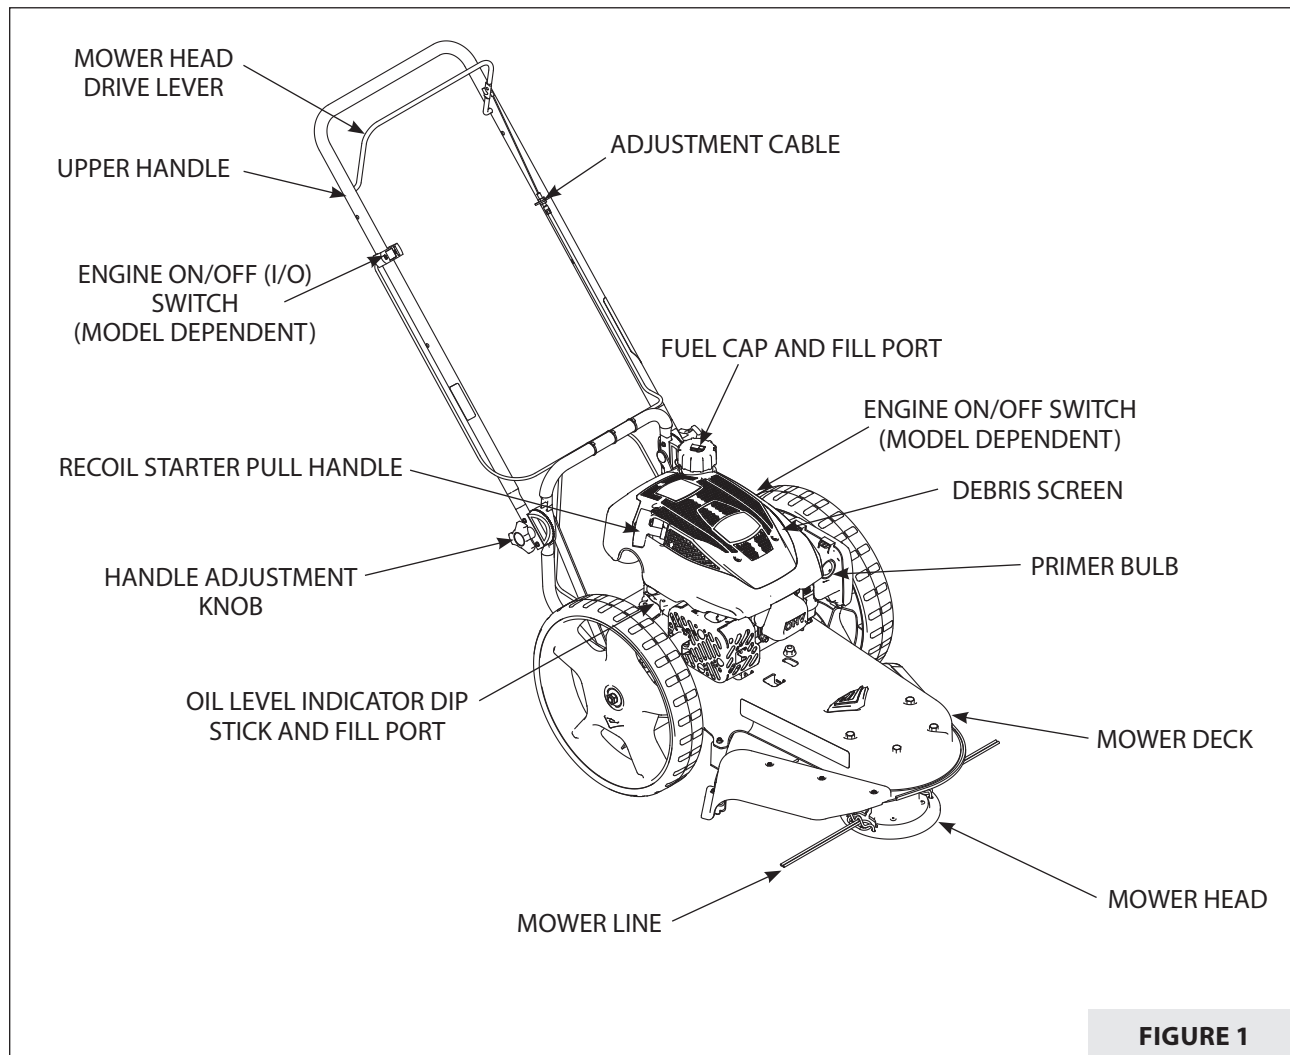
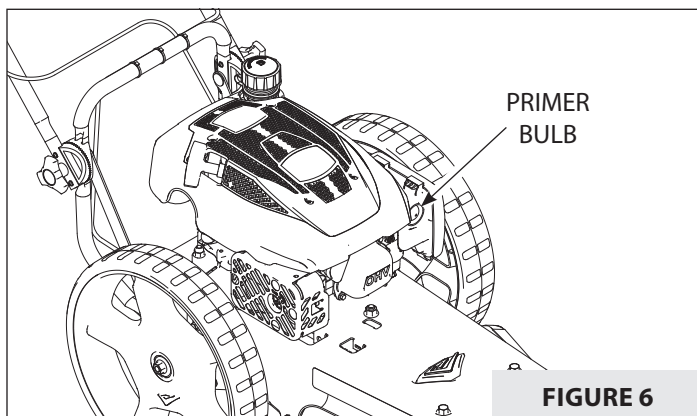

FIGURE 1
FIGURE 6
Read this owner's manual and safety rules before operating your mower. Take time to compare the following illustration with the mower to familiarize yourself with the product and its controls. **SEE FIGURE 1.**
1. Push the primer bulb three times. Wait approximately two seconds between each push. **SEE FIGURE 6.**
1. Before each use, remove debris from the debris screen. **SEE FIGURE 1 IN "FEATURES" SECTION.** Debris can cause the engine to overheat. Wipe the debris screen with a cloth or paper towel.
2. Set ON/OFF (I/O) Switch to ON (I).
3. To start a cold engine, push the primer bulb three times. Wait two seconds between each push of the primer bulb. **SEE FIGURE 6.**